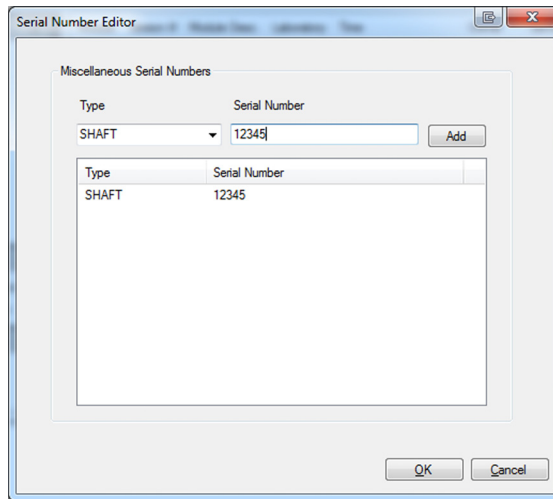

Figure 8. Serial Number Editor
- 3 Click **Serial Numbers**. The Serial Number Editor screen displays (see Figure 8, "Serial Number Editor," on page 43).